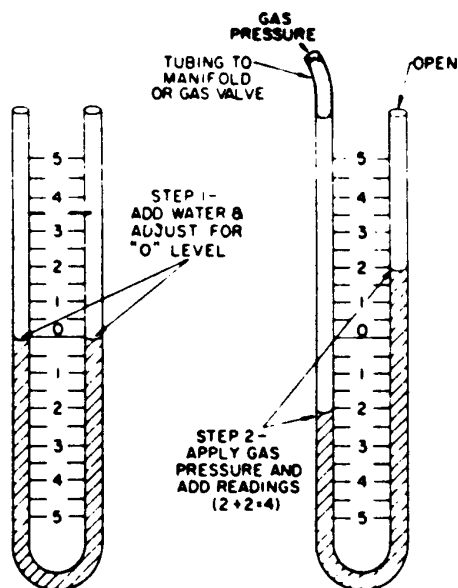

Figure 33 - The Manometer
The usual procedure for taking the pressure reading is to connect the tubing to one of the gas valve orifice hoods and turn on the valve. A full load reading should be taken by turning on all of the top burners and the oven burner to assure that the pressure under a full load is adequate. Figure 33 shows four (4) inches water column pressure (WCP), two (2) inches above and two (2) inches below the RC231002 Rev. 3